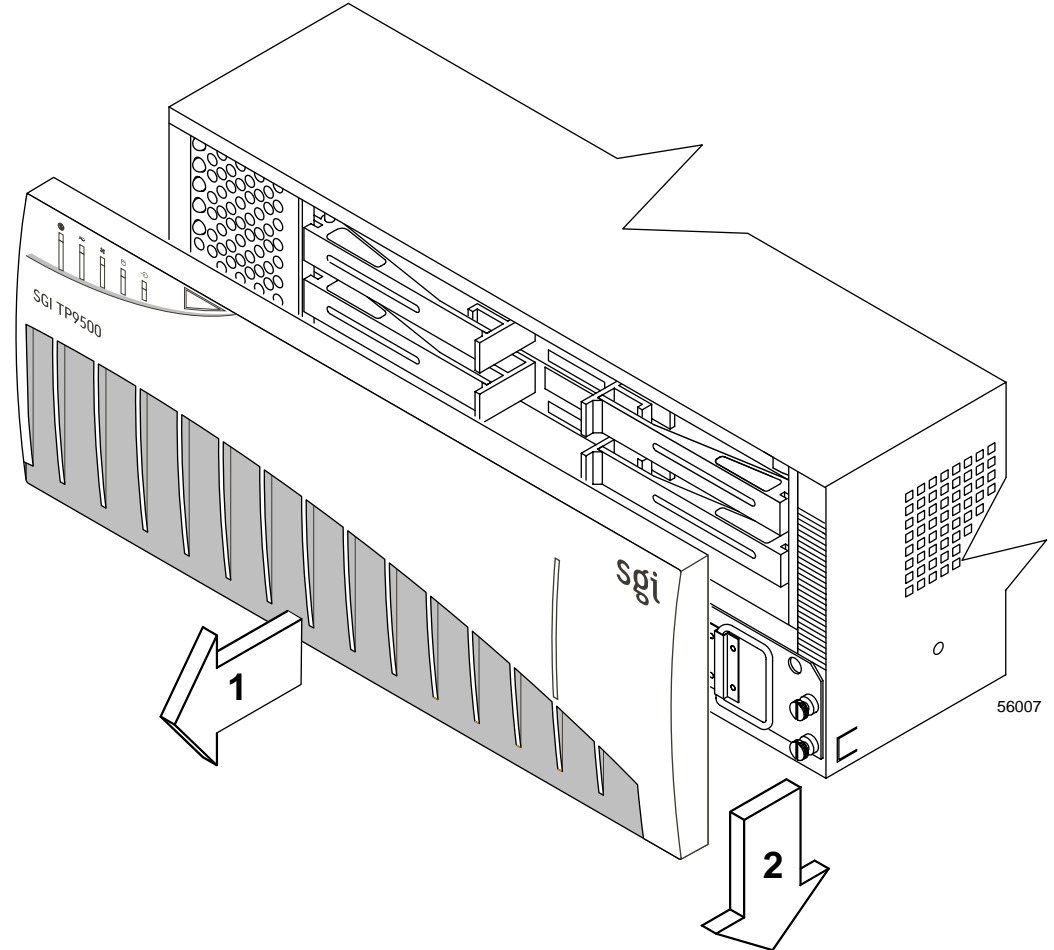

Figure 4-1 Removing the Front Cover of the Controller Enclosure
3. Remove the front cover (see Figure 4-1).
7. Replace the front cover on the controller enclosure (see Figure 4-1 on page 51).
6. Replace the front cover by reversing the sequence in Figure 4-1.
2. Remove the front cover (see Figure 4-1).